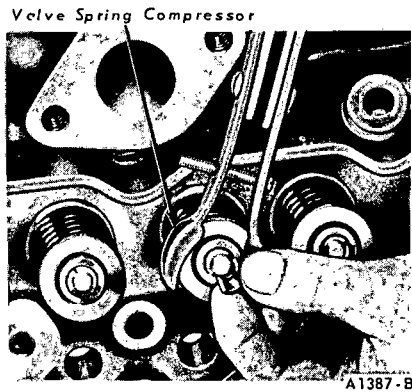

FIG. 25—Compressing Valve Spring—On Bench
2. Compress the valve springs (Fig. 25). Remove the valve retainer locks and release the spring. If the valve locks are stuck, place a piece of steel tubing (3/4-inch OD, 1/2-inch ID and 3-inches long) over the end of the valve stem squarely against the sleeve surface. Tap the tube with a steel hammer to dislodge the locks.
4. Compress the spring and install the retainer locks (Fig. 25).